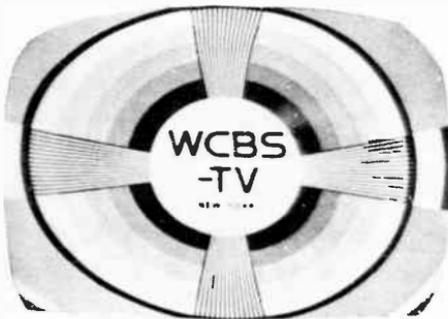

Fig. 1-L. Test pattern shows left-hand stretch.
**SYMPTOMS:** Picture compressed in center, left side stretched. See Fig. 1-L.